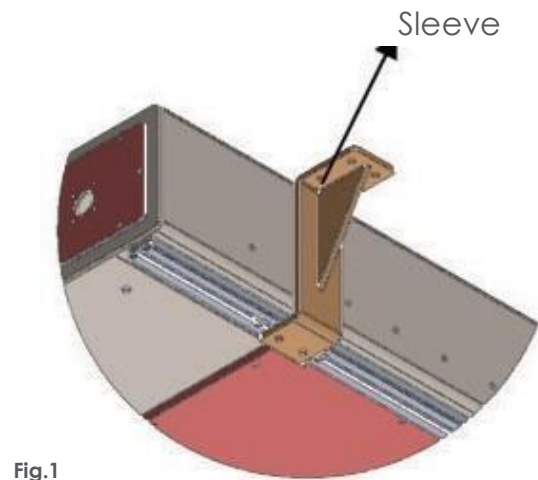

Fig.1
**The gangway box must be fixed using the brackets (fig. 1) provided. The section of hull to which the brackets are fixed must be of sufficiently robust construction to allow the use of the screws indicated without any failure or breakage.**